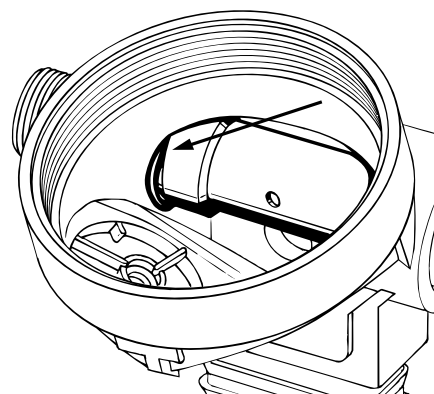
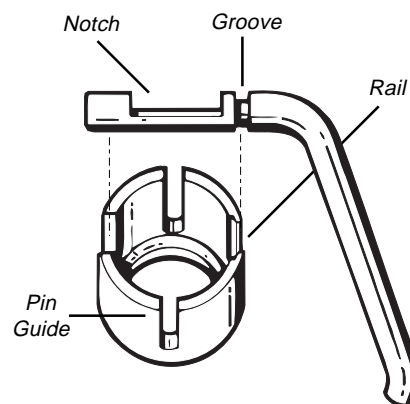

Fig. 17 - Valve Body O-ring Bind-Up
Fig. 18a - Lever Retaining Sleeve Features
CAUTION: Do not apply undue force to press the valve body into place. Doing so may cause the O-ring(20) to bind up and become unseated, which may allow water to leak into the box bottom (see Fig. 17). If bind up occurs, remove the valve body and check to ensure that the O-ring has been dressed with a sufficient amount of silicone grease.
17. Thread the hex nut(13) clockwise by hand onto the inlet of the valve body, with the shoulder side facing in towards the box bottom. While holding the box bottom secure, apply a torque wrench with $\frac{3}{4}$ " crow-foot to tighten the hex nut snug to a torque measurement of 45-55 inch-lb.'s.
18. Before proceeding, it is important to become completely familiar with the relationship of the lever(5) and the lever retaining sleeve(27). Closely read the instructions given in steps a-c before performing any further assembly. Carefully follow each step, and refer to the corresponding illustrations for further clarification.
- a. Stand the retaining sleeve vertical, so that the slotted end faces up. Closely examine the sides of the lever retaining sleeve(27) to identify the four open channels which are offset from each other by 90 degrees. Locate the widest channel, and then the channel which faces opposite of it by 180 degrees. Closely examine the inner barrel of the sleeve around this channel to see that it contains a stepped rail which engages with the lever (see Fig. 18a).